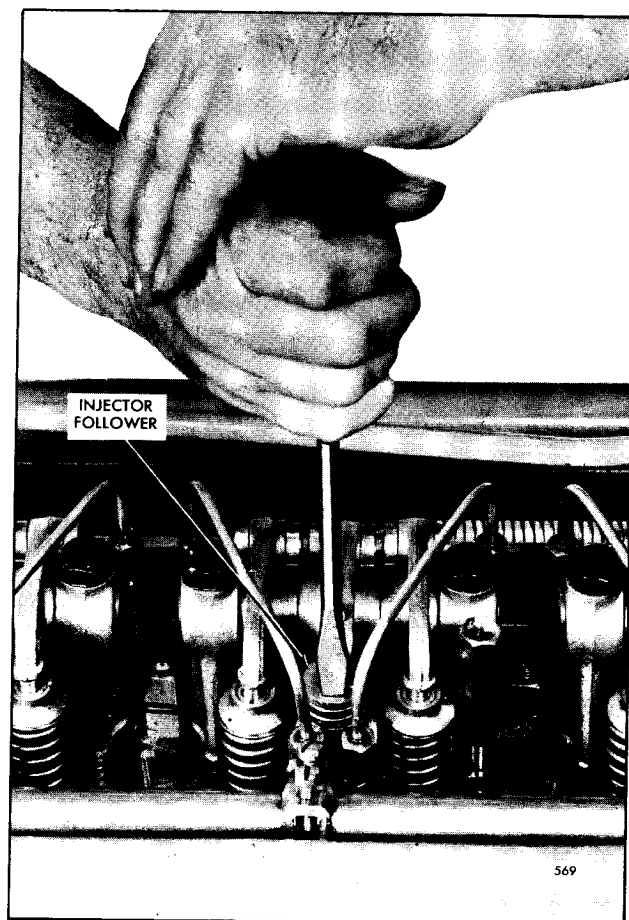

Fig. 1 - Locating a Misfiring Cylinder
4. Hold the No. 1 injector follower down with a screw driver, see Fig. 1, to prevent operation of the injector.